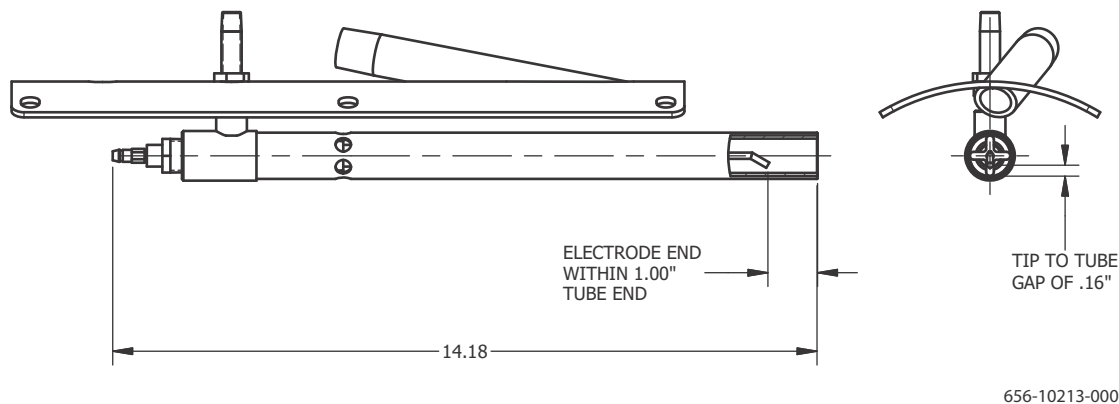

FIGURE 4-2. Gas Pilot
- d. Check the electrode position as shown in Figure 4-2.